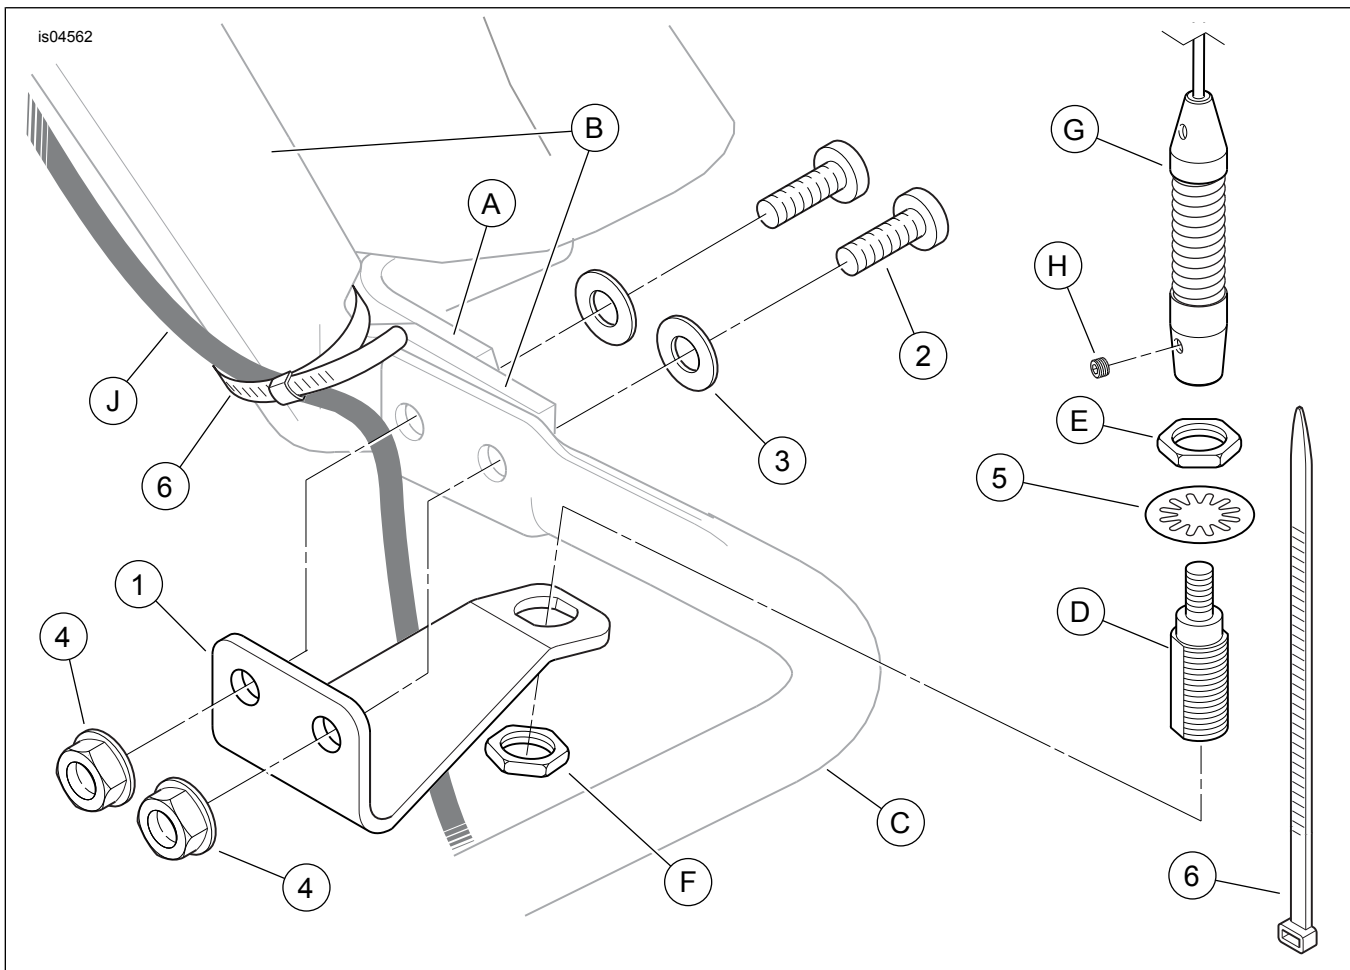

Figure 2. Service Parts, Antenna Relocation Kit
See Figure 2 and Table 1.
3. Use a 2 mm hex key to loosen the bottom set screw (3) of the antenna mast (2). Unscrew the mast from the antenna base, and set it aside for re-installation.
4. Remove the lower locknut (4), and remove the antenna base from the mounting bracket (6). Save both locknuts, but discard the lockwasher (5).
5. Remove the two screws (8) and lockwashers (9) retaining the antenna mounting bracket and trim (7) to the saddlebag rear support bracket (10). Discard the bracket, trim and fasteners.
7. Support the left-side muffler in the installed position with a wood block or other suitable method. Remove and discard the two pan head screws and nuts (11) that fasten the lower saddlebag support bar to the saddlebag rear support bracket.
8. See Figure 2. Obtain the **new** antenna bracket (1), and two button head screws (2), flat washers (3) and flange nuts (4) from the kit. Assemble a flat washer to the threads of each screw.
9. Position the antenna bracket as shown to the forward side of the lower saddlebag support bar (C). From the rear, insert the threads of one screw through the saddlebag-to-fender support bracket (A), and the inboard hole in the saddlebag rear support bracket (B) and saddlebag support bar. Insert the remaining screw through the outboard hole in the support bracket and bar.
11. Place the internal tooth lockwasher (5) from the kit onto the larger threads of the antenna base (D, removed earlier), under the hex nut (E), and insert the antenna base through the hole in the antenna mounting bracket.
12. Install the second hex nut (F) onto the threads of the antenna base. Place a wrench on the upper nut and tighten the lower nut to 8 N·m (6 ft-lbs).